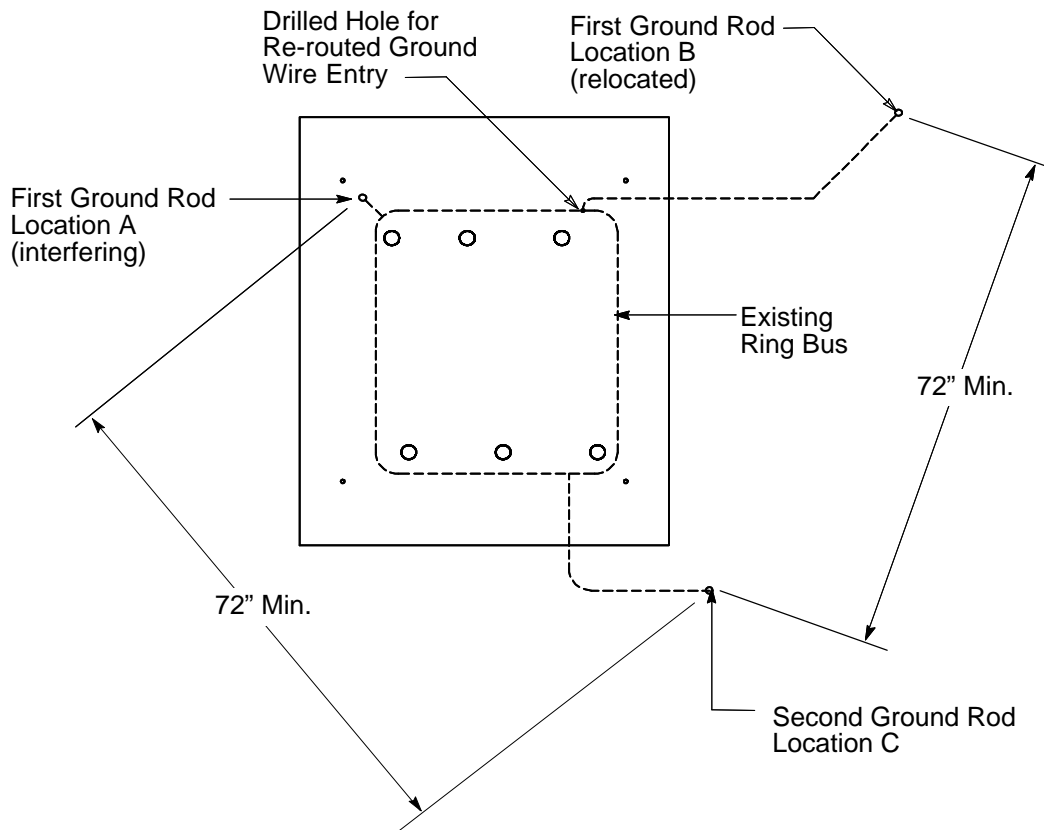

Figure 12
8. Figure 12 below illustrates an older G&W control. Controls purchased after March 2009 will have CUT IN and CUT OUT instead of ENABLE and BLOCKED.